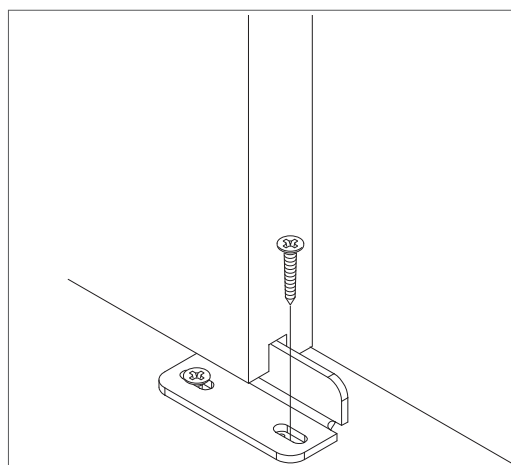

Figure 15
20. Install the second 1" phillips screw (provided) using a drill with a phillips bit. (Figure 15).